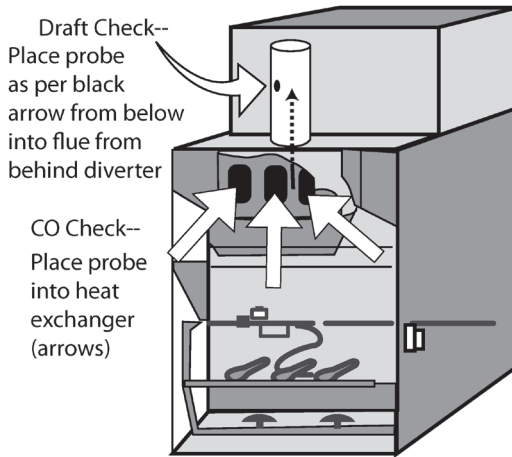

Figure 9-57. 70%+ Atmospheric Furnace (Also Referred to as a Low Efficiency or Standard Efficiency Furnace)
- **Up to 70%+ / Atmospheric / Standard / Low Efficiency Furnace (Figures 9-57 and 9-58):** (If probe(s) will reach, check the draft by entering the probe up through the draft diverter on furnaces. If the probe does not reach, drill a hole into the flue just large enough for the analyzer probe at 1 to 2 ft above the draft diverter / vent connection or just beyond the first elbow.